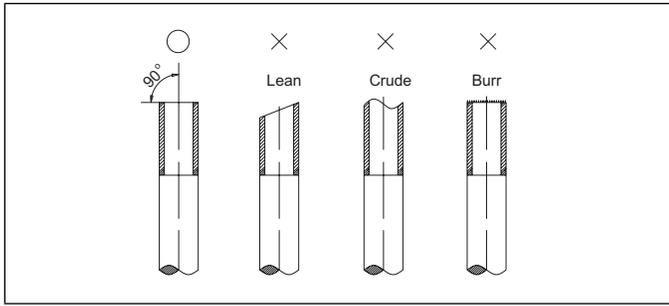

Figure 20. Cutting Pipe
4. Cut the selected pipes with a pipe cutter. Make the cuts flat and smooth as illustrated in "Figure 20.